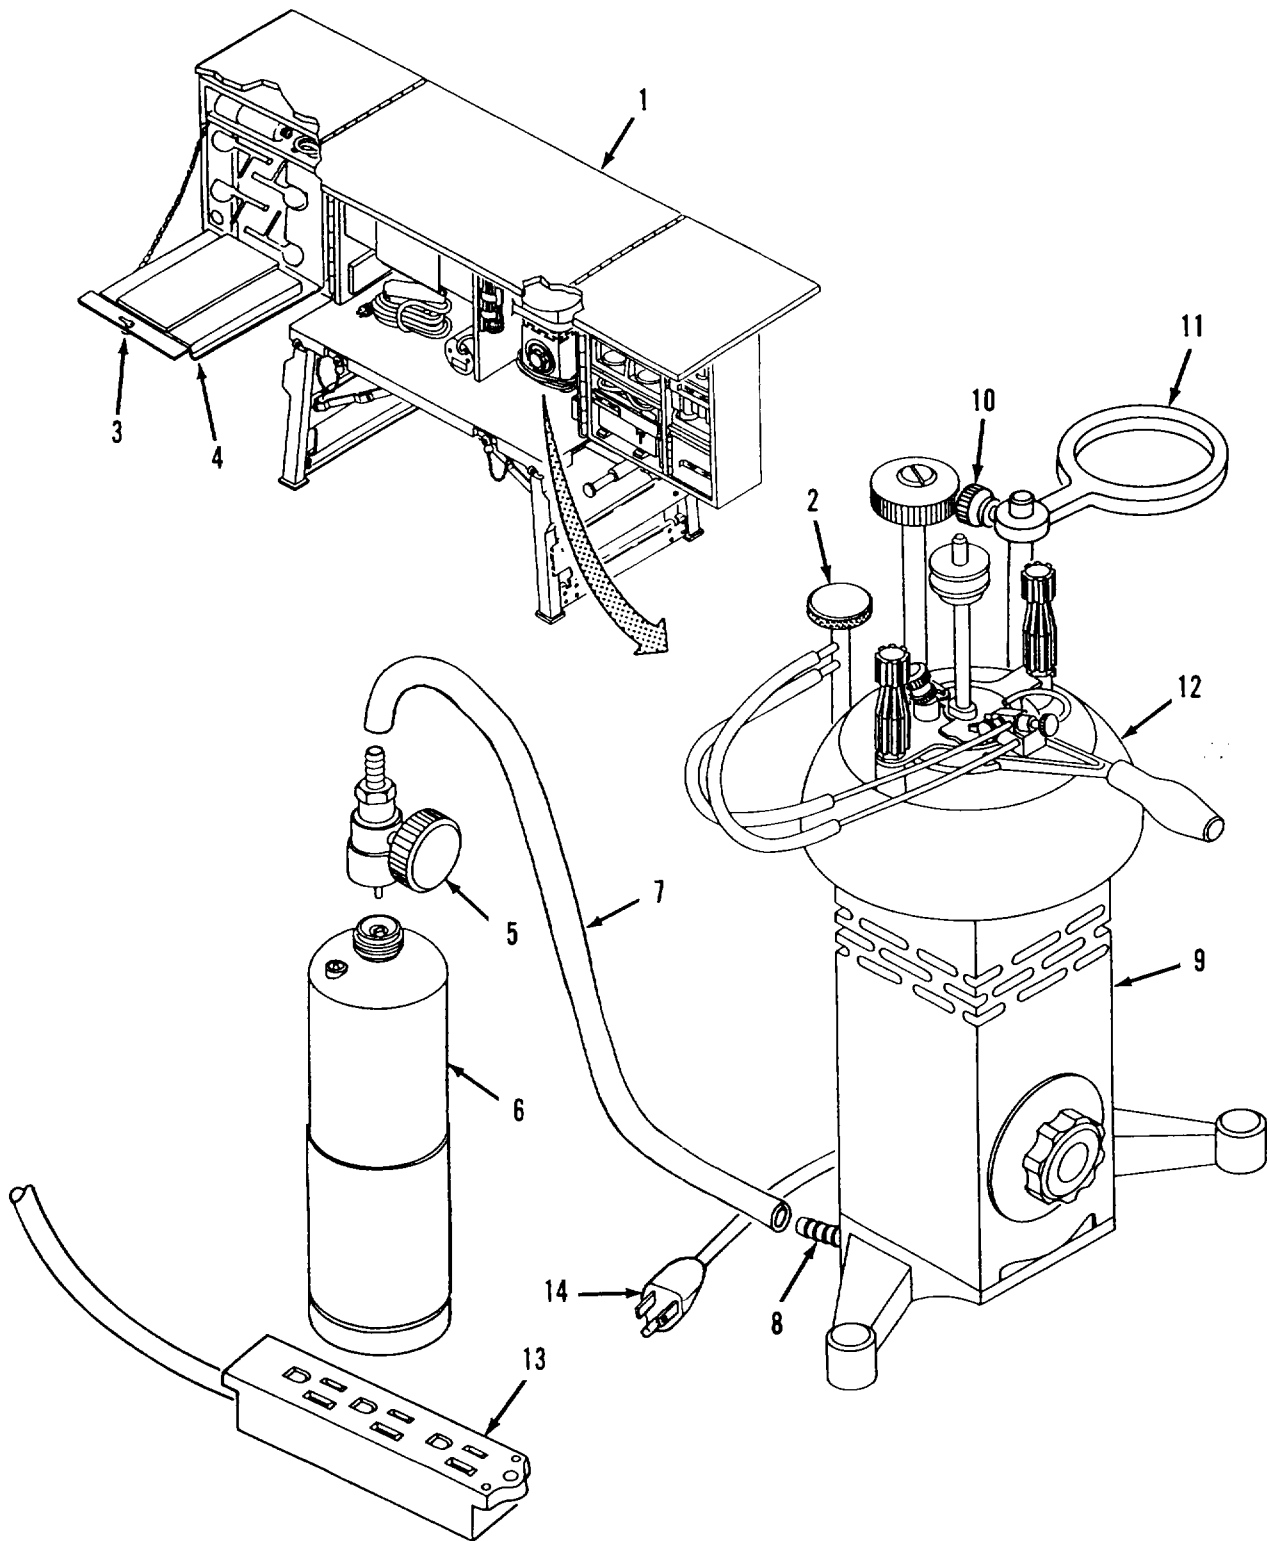

Figure 2-7. Flash Point Tester Setup
- d. Setup Flash Point Tester. Refer to figure 2-7.